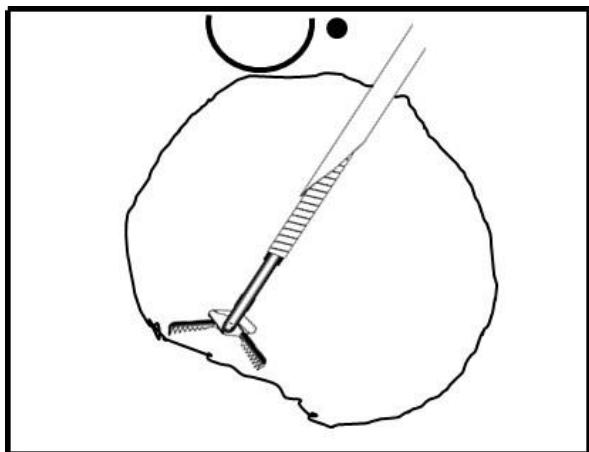

Figure 5
11. Advance the Moray™ micro forceps with jaws open to capture the desired tissue while **maintaining EUS or endoscopic visualization.** (See Figure 5)